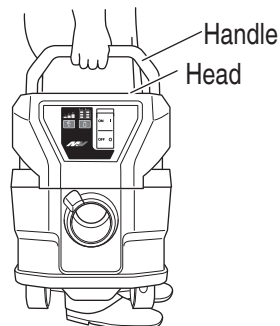

Fig. 24
- (1) How to use the handle (see **Fig. 24**)